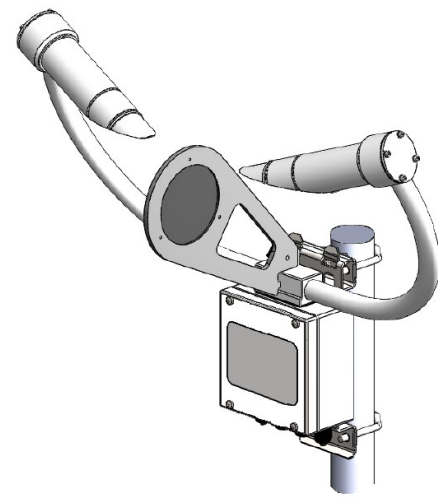

FIGURE 4-1. Calibration disc mounted securely in the central mounting point
1. Insert the calibration disc into the appropriate central mounting point so that it is secure as shown in FIGURE 4-1.